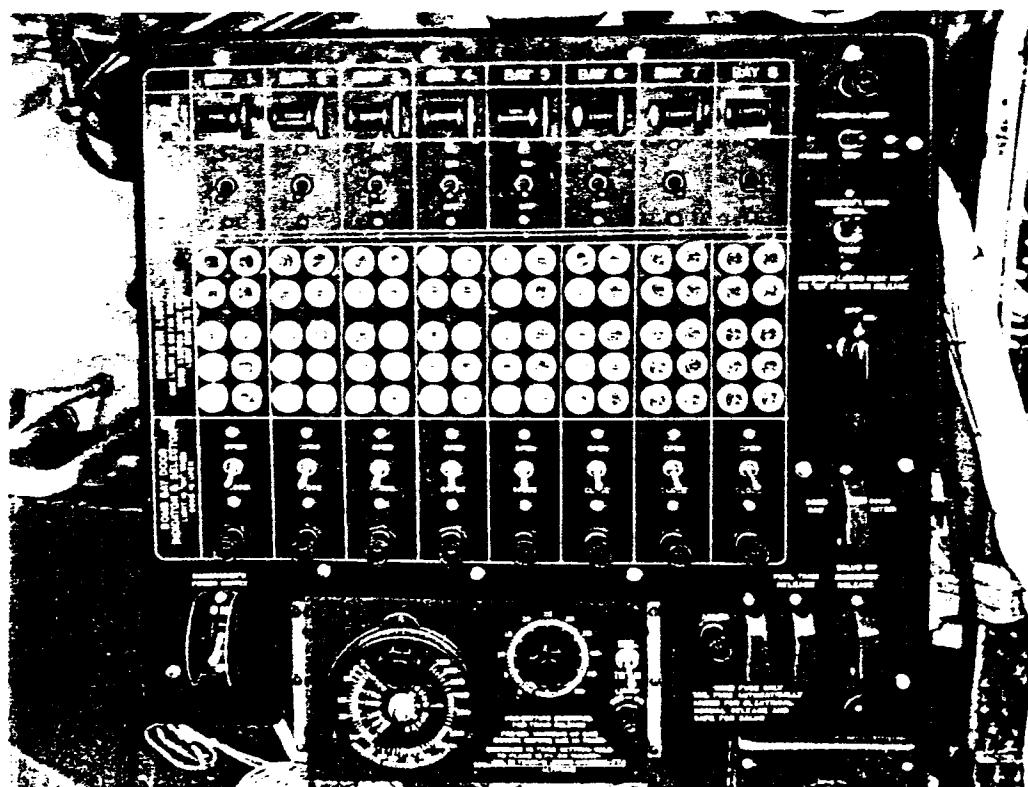

Figure 11. Bombardier's Control Panel
(1) GENERAL.- The bomb release system is all-electric. The control panel is to the bombardier's right and a bomb release switch, on a flexible cord, extends from the aft side of the panel. The BOMBARDIER'S POWER SUPPLY switch is located at the lower left corner of the panel. (See figure 11.) While on the ground, this switch should be kept in the "OFF" position.
(See figure 11.)